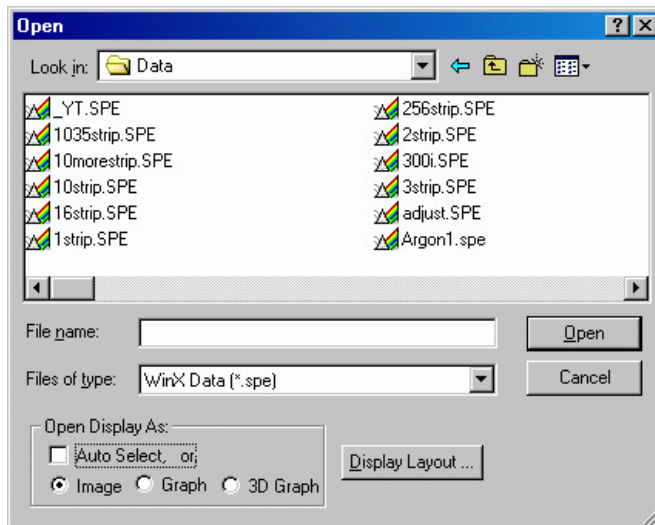

Figure 95. Open dialog
1. From the File menu, select **Open**. The **Open** dialog (Figure 95) allows you to select the image to be opened. The **Look-In** field provides a browser function so you can easily find the directory where the images. By default, the data directory is a subdirectory of the directory where WinSpec/32 was installed. Subdirectory names and the filenames of all files of the specified type (the WinSpec/32 data type is *.spe) in the current directory are listed in the box below the directory name. The WinSpec/32 data type is WinXData (*.spe).